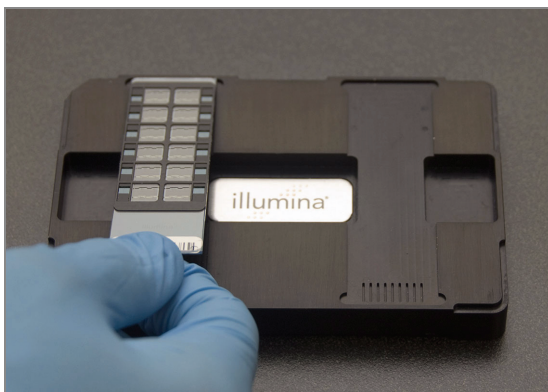

Figure 147 Placing BeadChips in Robot BeadChip Alignment Fixture
5. Place two BeadChips into each Robot BeadChip Alignment Fixture with the barcode end aligned to the ridges on the fixture (Figure 147).